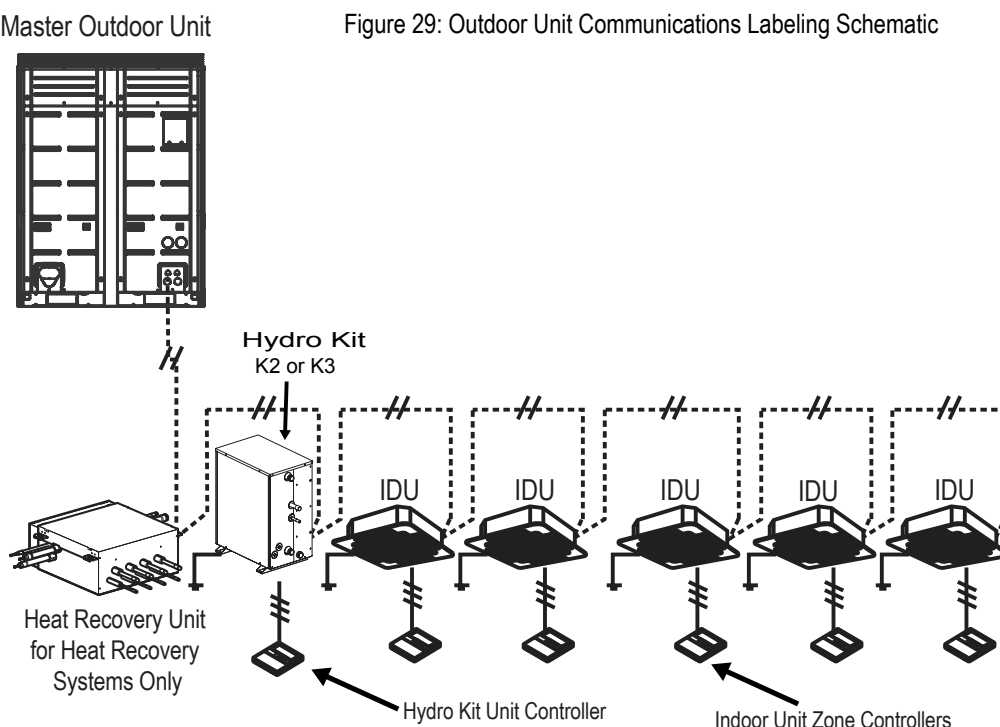

Figure 29: Outdoor Unit Communications Labeling Schematic
Refer to the applicable Outdoor or Water Source Unit manuals for cable routing and connection architecture. Figure 29 shows the correct connection communication cable schematic, including the Hydro Kit among the indoor units. Note Figure 30, which shows improperly terminated communication cable connections in a "starburst" pattern.
- Communications cable connecting the outdoor unit and Hydro Kit and other Multi V indoor unit(s) should be installed and terminated in a daisy chain (BUS) configuration starting at the outdoor unit as shown in Figure 29.